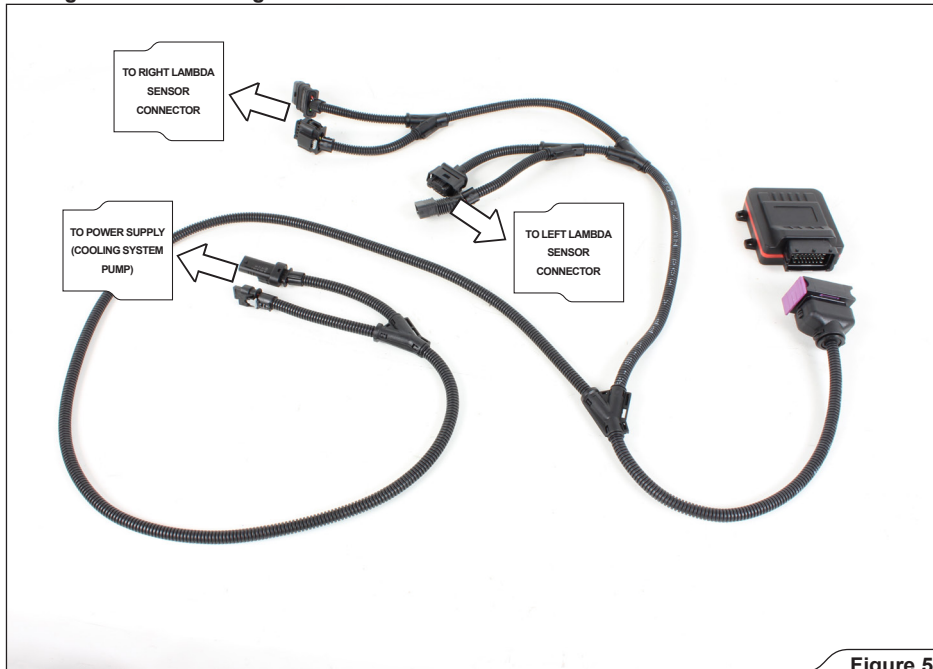

Figure 5
3. Install the Akrapovič Delete-R and wiring harness as shown; fix the Delete-R unit and wiring harness, using tie wraps from installation kit (**Figure 5, 6, 7, 8, 9, 10, 11, 12, 13, 14**).